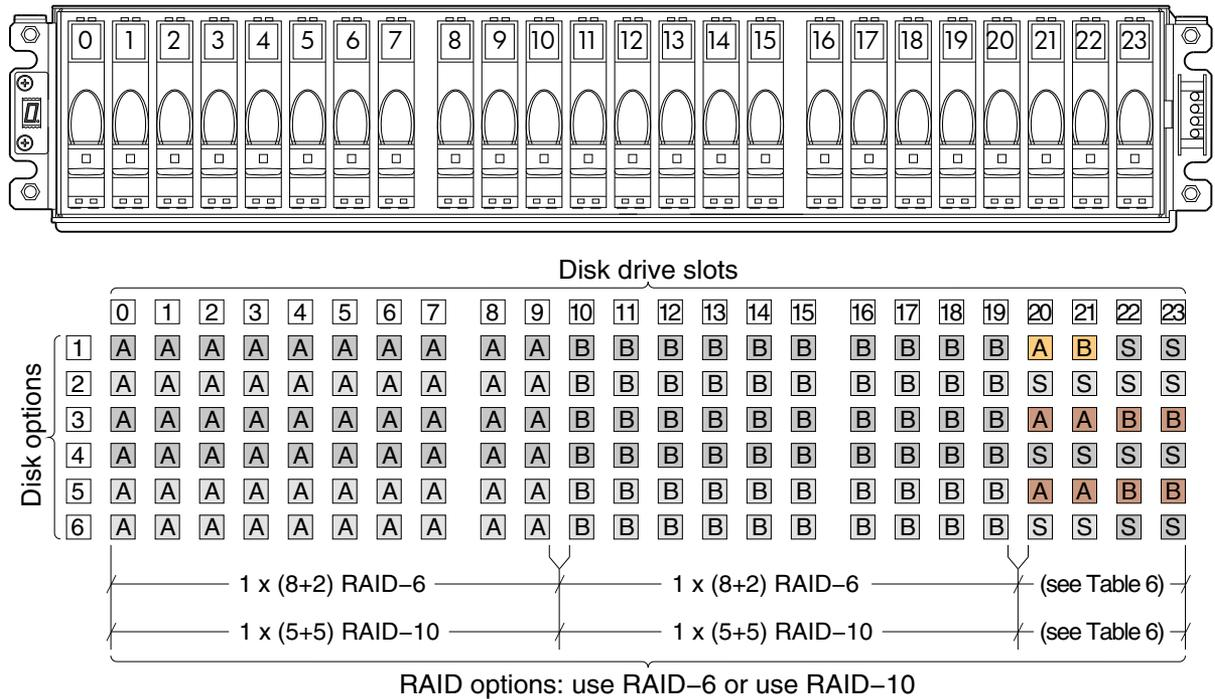

Figure 14 Disk slot configuration for 24-drive enclosures
- Figure 14 on page 31 (Disk slot configuration options for 24-drive enclosures)
See Figure 14 on page 31. For example, controller enclosure option 1 shows that the enterprise disks in slots 0—19 will be provisioned for use in storage pools A and B in the Standard tier, one SSD will be configured as SSD read cache for each storage pool, and the enterprise SAS disks in slots 22—23 will be spares for the Standard tier.